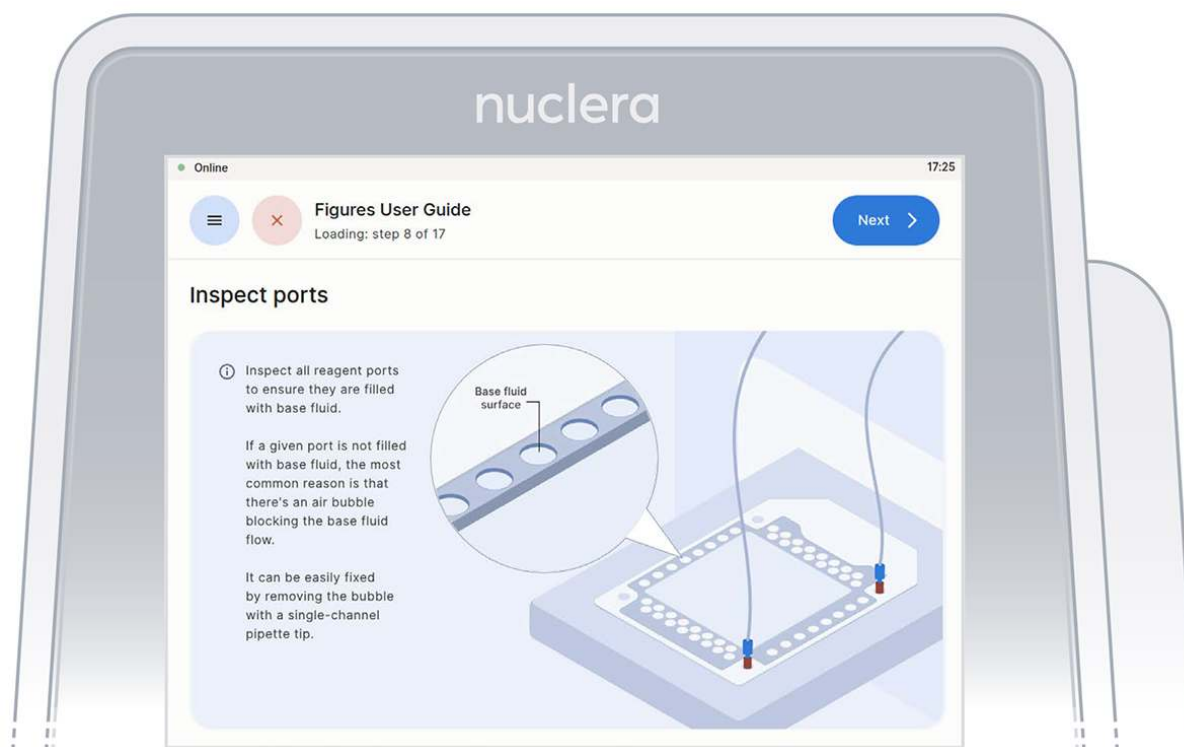

Figure 16: Inspection that all the ports on the cartridge are filled with base fluid
4. Inspect the ports on the cartridge after the priming with base fluid is complete. Ensure all the ports are filled and press the [Next] button (Figure 16).